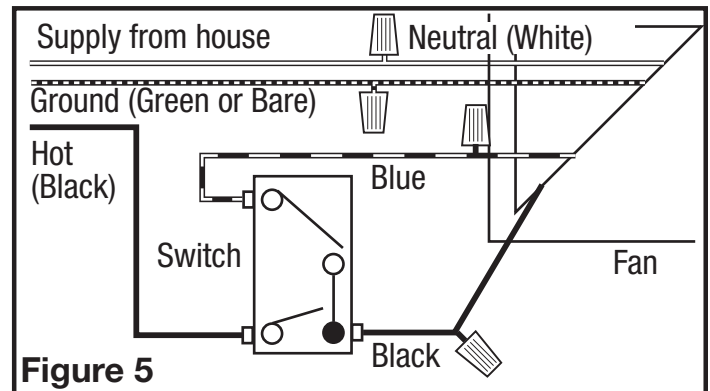

Figure 5
3. **Intermittent Ventilation:** For two speed fans wired for intermittent ventilation with the recommended AKS2 Switch (not included). Connect the White wire of the fan to the White (Neutral) wire from the power source. Connect the ground wire from the fan to the ground wire from the power source. Properly ground the switches. Run a wire from the Black wire in the fan to the Common terminal (Black Screw) of the AKS2 Switch. Connect the Black wire from the power source to the silver terminal on the bottom of the AKS2 Switch. Connect the Blue wire from the fan to the silver terminal on the top of the AKS2 Switch. The Bottom switch will turn the fan on & off, the top switch will change between high and low (Figure 5).